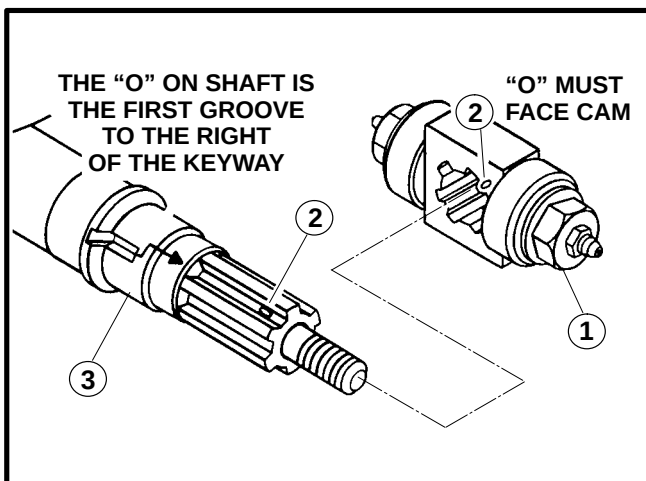

FIGURE 31
5. On right side of unit, install trunnion roller assembly onto clutch shaft by aligning the timing marks ("0"). With the "0" on the trunnion roller facing the cam, align the "0" on the roller with the "0" on the shaft. Slide assembly onto the clutch shaft. See Figure 31.